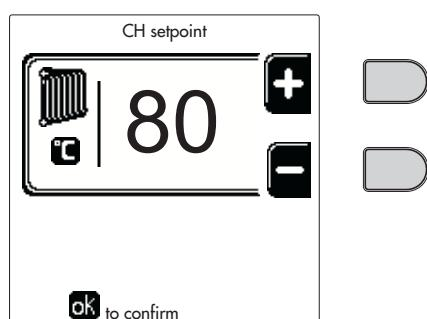
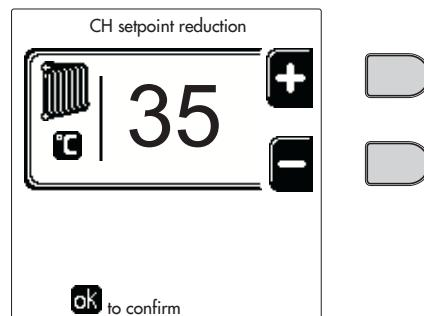
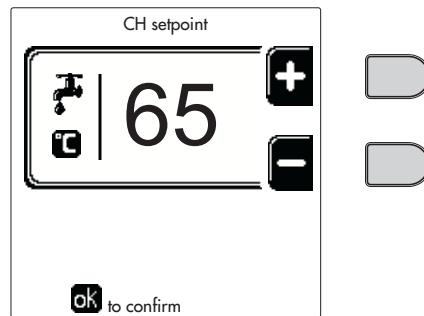
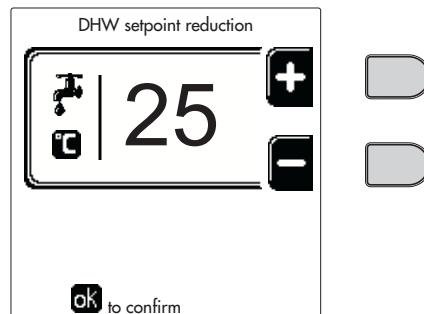

fig. 12
fig. 13
fig. 14
fig. 15
- **ON.** In case of a Heating/DHW demand, the boiler works at the set Heating/DHW (fig. 12/fig. 14) Adjustment Temperature.
- **OFF.** In case of a Heating/DHW demand, the boiler works at the Reduced Adjustment Temperature. The Reduced temperature is obtained by subtracting the Reduction Adjustment Temperature value (fig. 13/fig. 15) from the set Heating/DHW Adjustment Temperature (fig. 12/fig. 14).